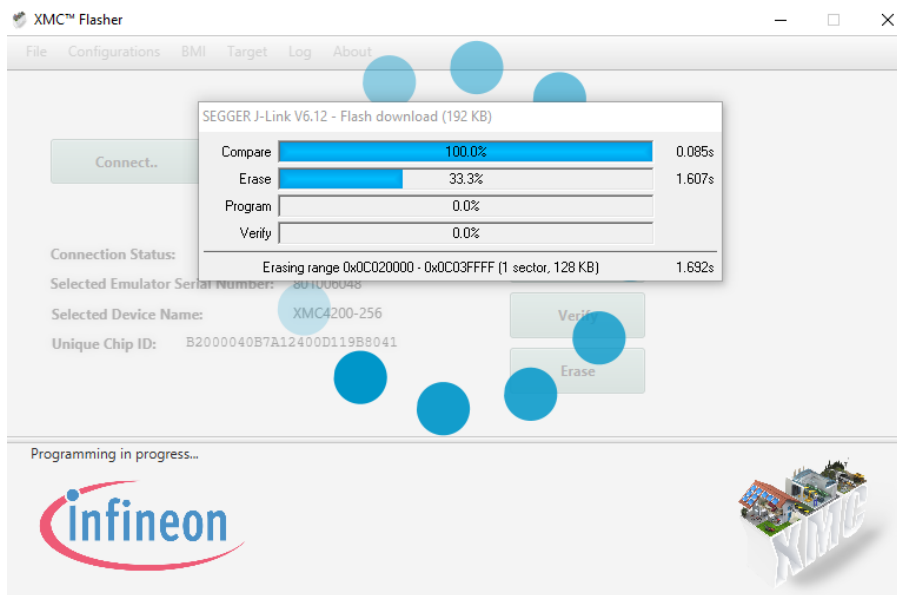

Figure 11. Sensor Flashing in Process
**Step 9.** Press Program to start the flashing process. A pop-up of rolling balls along with a status box will appear while the flashing in process (Figure 11). Typically, it only takes a few seconds to complete the flashing process.